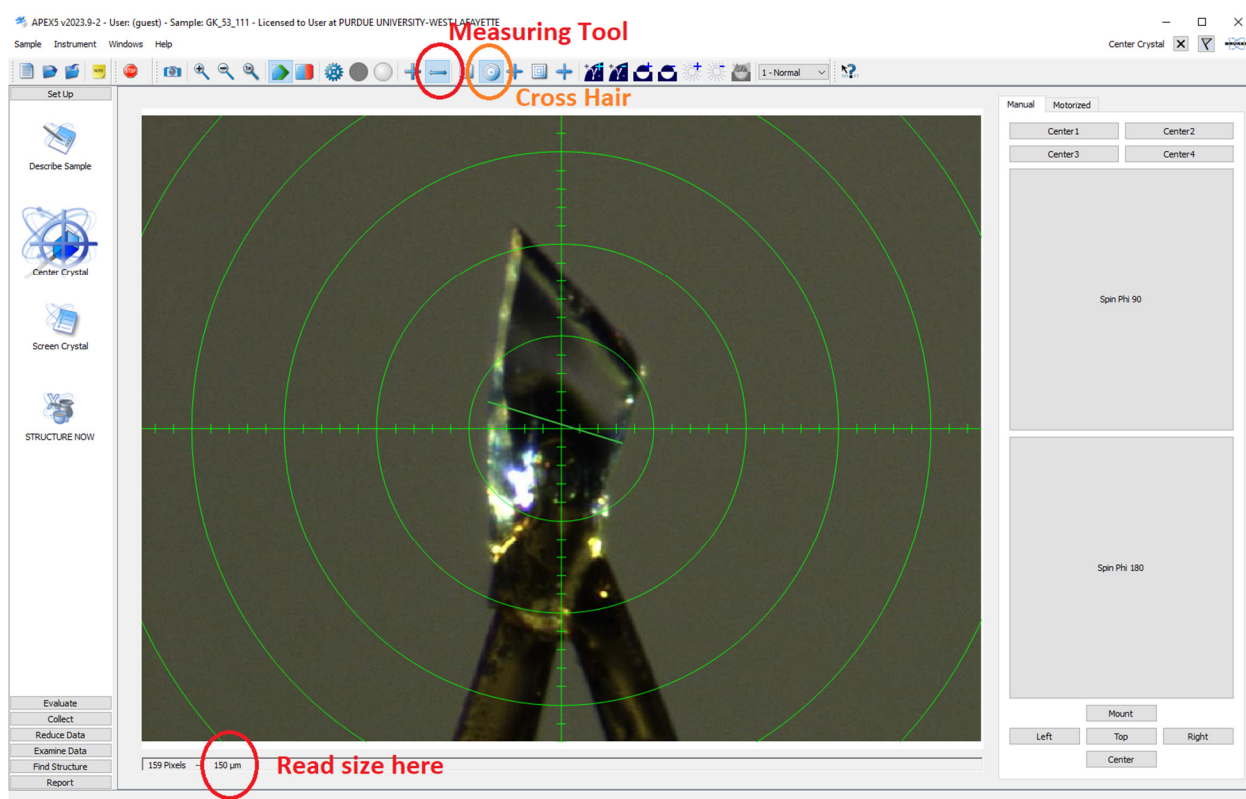

Figure 8, Crystal Centering Window and live video feed with mounted sample and cross hair.
- Measure the dimensions of the crystal: Switch on the measuring tool (double sided arrow icon on top of <Center Crystal> window, Fig. 8). Click on one side of the crystal, hold the